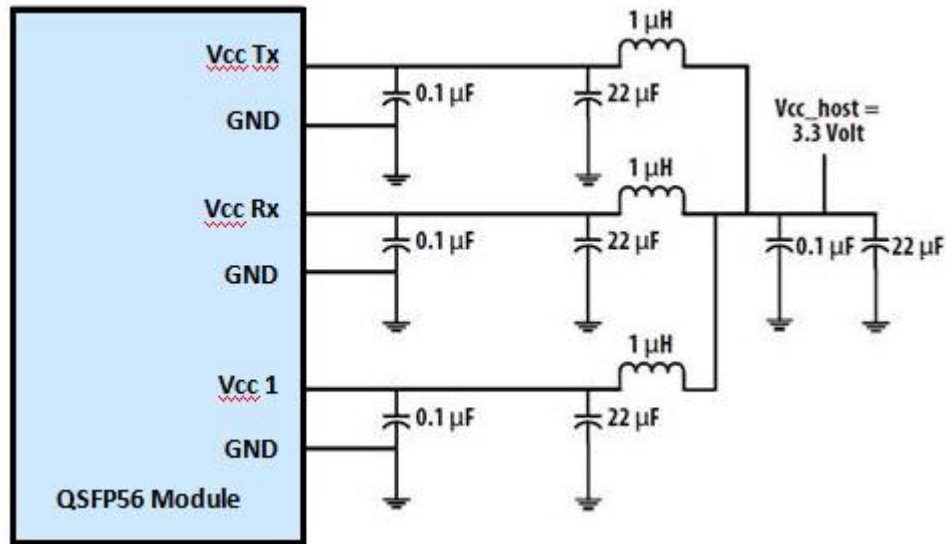

Figure 3. Recommended Power Supply Filter
- 2.VccRx, Vcc1 and VccTx are the receiving and transmission power suppliers and shall be applied concurrently. Recommended host board power supply filtering is shown in Figure 3 below. Vcc Rx, Vcc1 and Vcc Tx may be internally connected within the QSFP56 transceiver module in any combination. The connector pins are each rated for a maximum current of 1000mA.